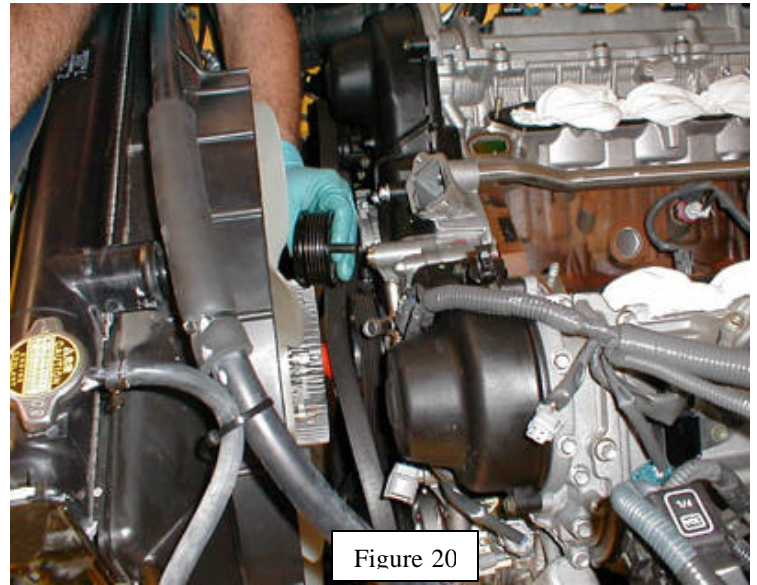

Figure 20
39. Remove drive belt idler pulley (Figure 20).